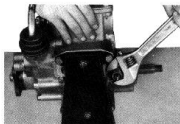

Fig. 9-5
6. Remove the speedometer driven gear as shown in the Fig. 9-5.